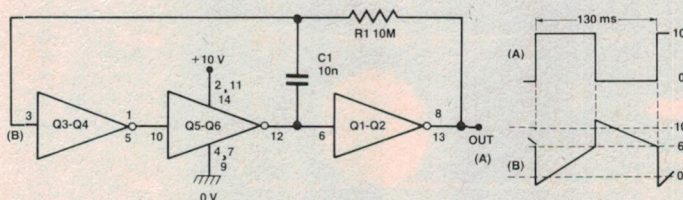

Figure 28. This 4007UB ring-of-three astable consumes 280 μ A at 6 V, 1.6 mA at 10 V.
One of the most useful applications of the 4007UB is as a ring-of-three astable multivibrator. Figure 28 shows the basic configuration of the circuit. Waveform timing is controlled by the values of R1 and C1, and the output waveform (A) is approximately symmetrical. Note that for most of the waveform period the front-end (waveform B) part of the circuit operates in the linear mode, so the circuit consumes a significant running current.
In practice, the running current of the Figure 28 astable circuit is far higher than that of an identically configured B-series 'buffered' CMOS chip such as the 4001B, the comparative figures being 280 μ A at 6 V and 1.6 mA at 10 V for the 4007UB against 12 μ A at 6 V and 75 μ A at 10 V for the 4001B. The 4007UB circuit, however, has far lower propagation delays than the 4001B and typically has a maximum astable operating speed that is three times higher than that of the 4001B.